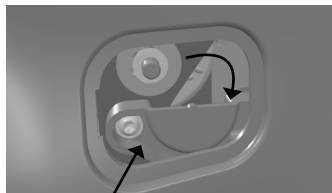

Fig. 9
- Access the emergency locking mechanism (Fig. 9).
- Using a suitable auxiliary tool, tilt the safety cap downward (Fig. 9).